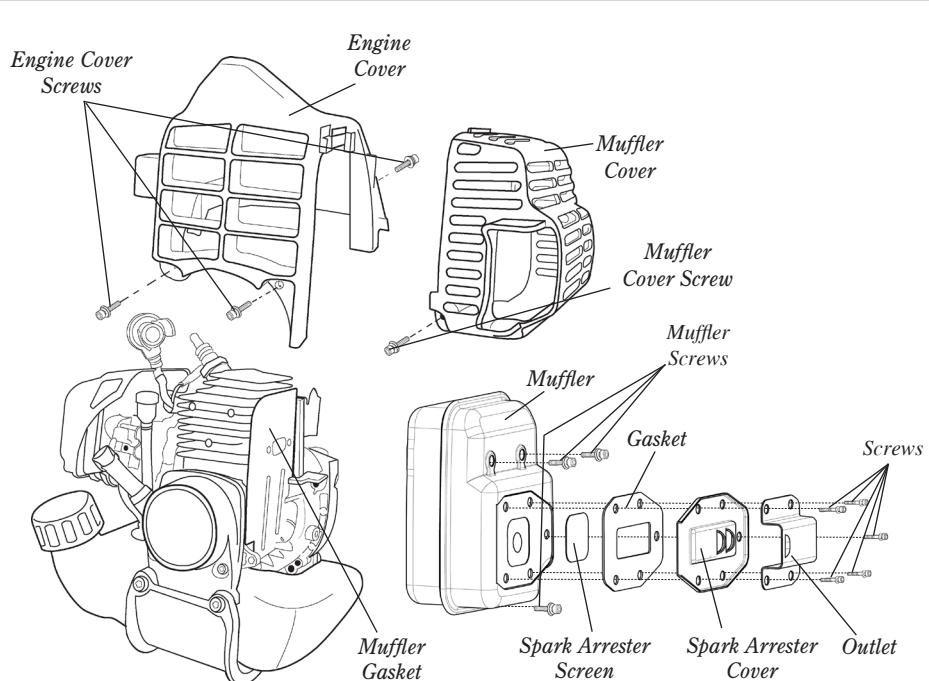

Figure 30
2. With a 3 mm hex wrench remove the 1 muffler cover and 3 engine cover screws and the engine cover. See Figure 30.
3. With a Phillips type screwdriver remove the 5 screws holding the spark arrester screen and cover to the muffler. See Figure 30.
See Figure 30.